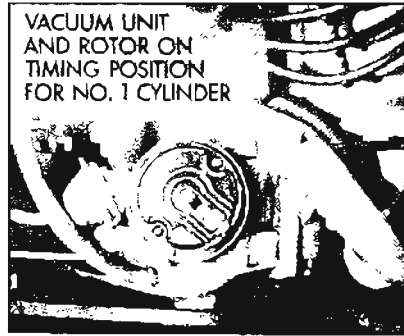

Figure 10-41—Installing Distributor in Engine (V-8)
2. Install distributor in engine with rotor in position to fire No. 1 cylinder and with vacuum control in position to connect vacuum pipe. See Figures 10-41 or 42, install distributor clamp and bolt
2. Make a mark on distributor base in line with center of rotor. Then carefully note the direction the vacuum unit points in relation to engine so that the distributor can be replaced in the exact position after it is serviced. See Figure 10-41 or 42. CAUTION: If engine is turned over while distributor is out, complete ignition timing procedure must be followed (par. 10-35).